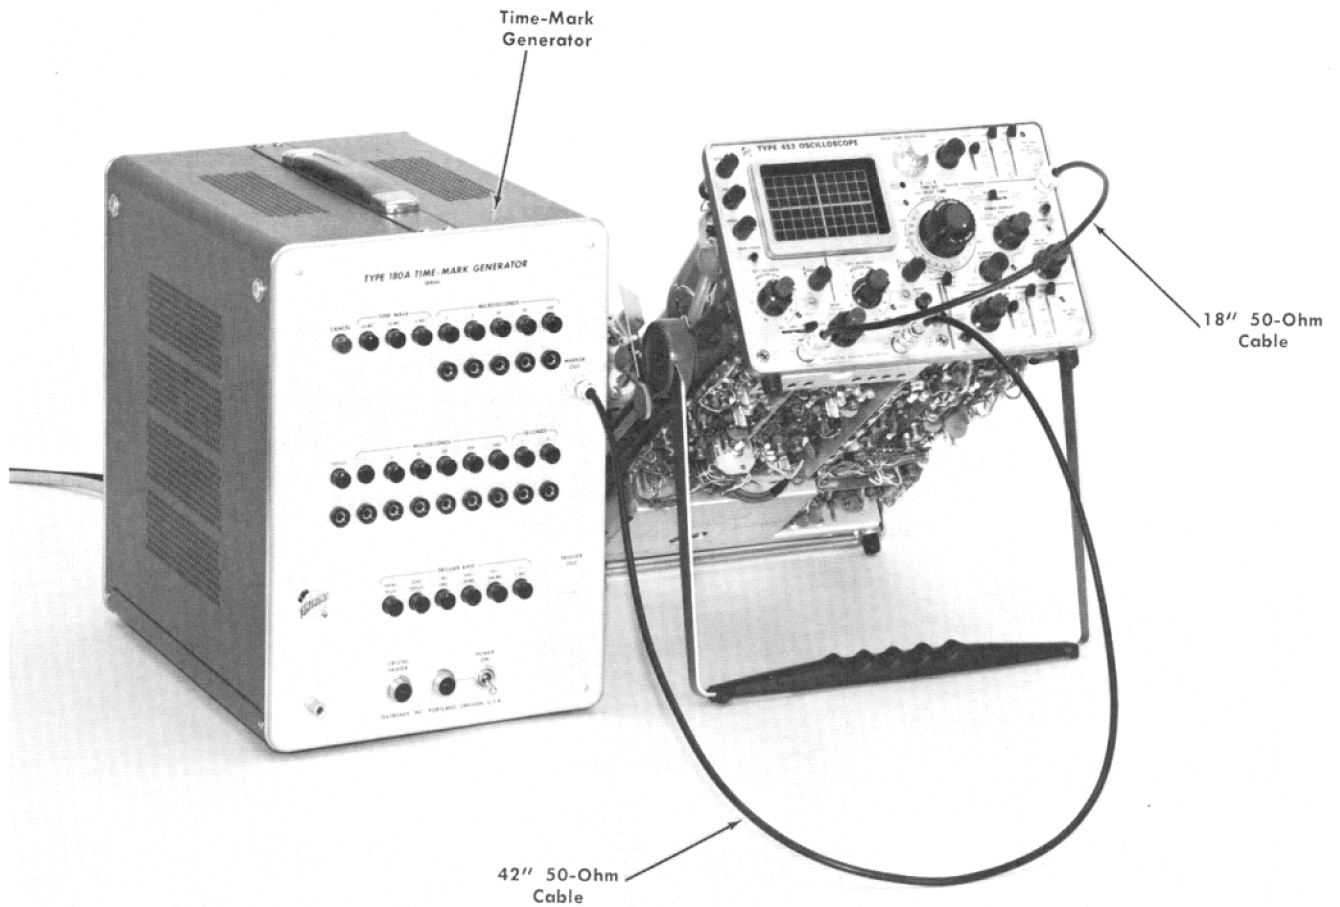

Fig. 6-58. Initial test equipment setup for steps 60 and 61.
60. Adjust Calibrator Repetition Rate ❶
- a. Test equipment setup is shown in Fig. 6-58.